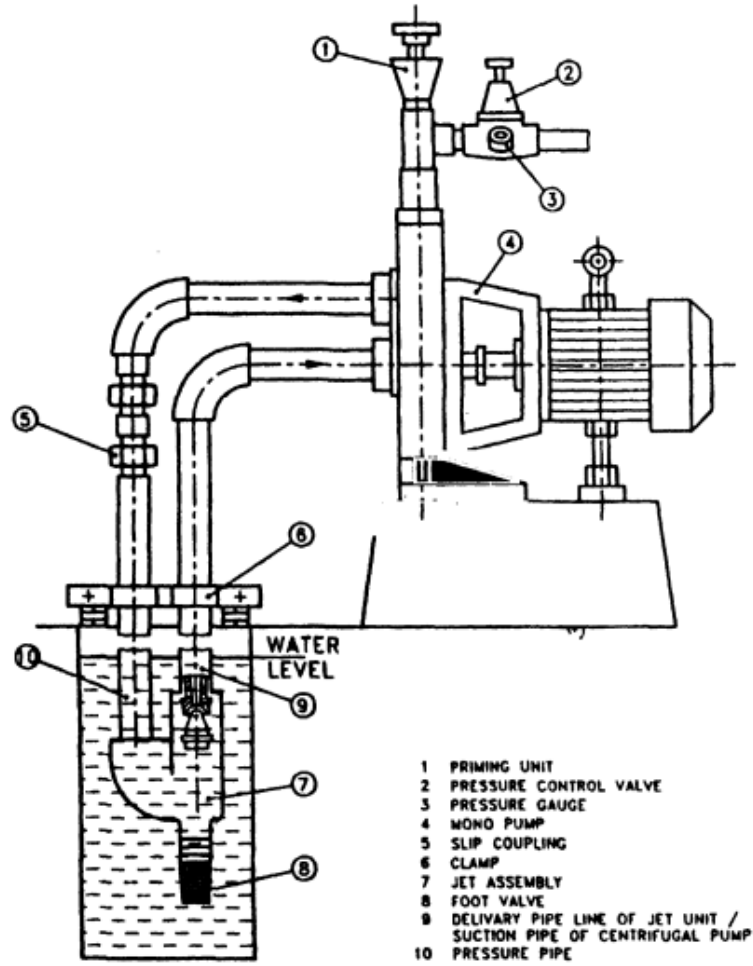
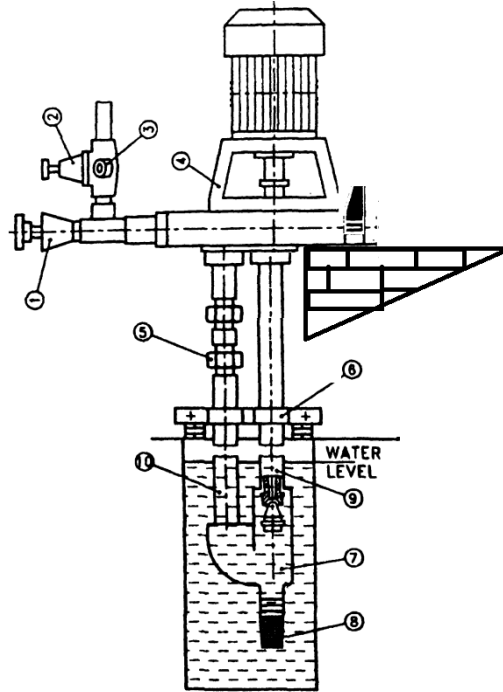

FIG. 1A TYPICAL FIELD INSTALLATION FOR TWIN TYPE JET
FIG. 1B TYPICAL FIELD INSTALLATION FOR TWIN TYPE JET
4.2 Installation of Twin Type Centrifugal Jet Pump (*see Fig. 1A and Fig. 1B*)